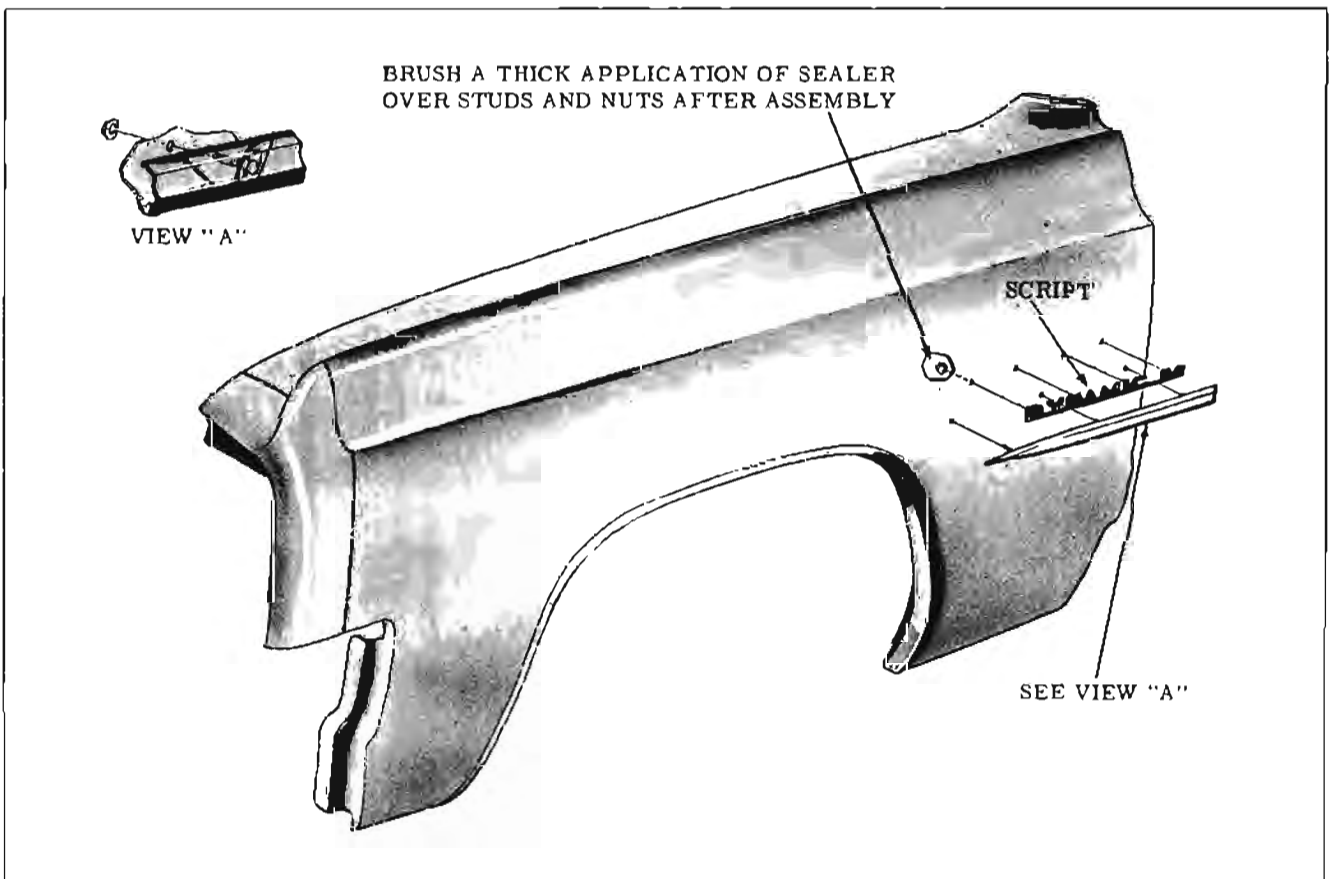

Fig. 12-10 88 Fender Script and Molding
**Fender Moldings and Script (Figs. 12-10, 12-11, 12-12 and 12-13)**